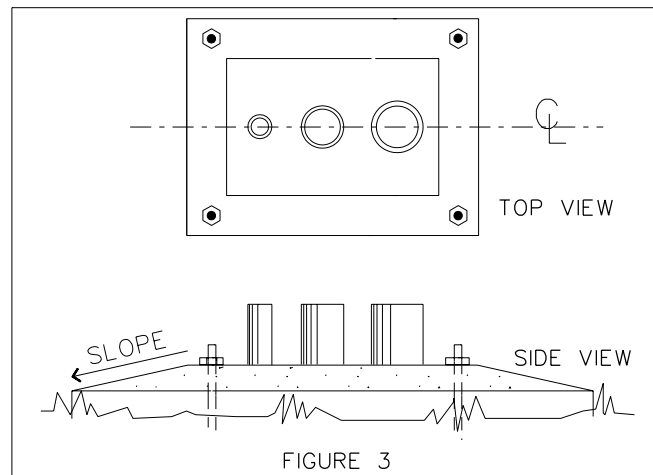

FIGURE 3
5. PRESS MOUNTING TEMPLATE INTO CONCRETE UNTIL FLUSH. CENTER TEMPLATE WITH CONDUIT AS SHOWN TO PREVENT PEDESTAL/ CONDUIT INTERFERENCE. SEE FIGURE 3.